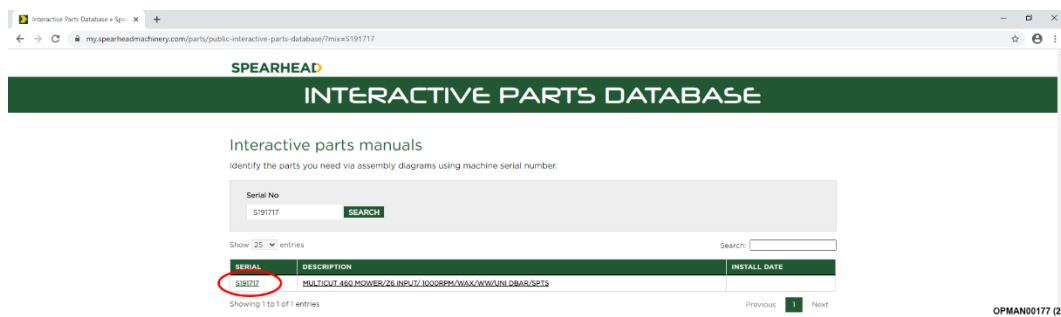

Figure 21 – Click On Serial Number
7.2.1.2 After entering the serial number a specification for the machine will appear. Click on the serial number; see Figure 21.